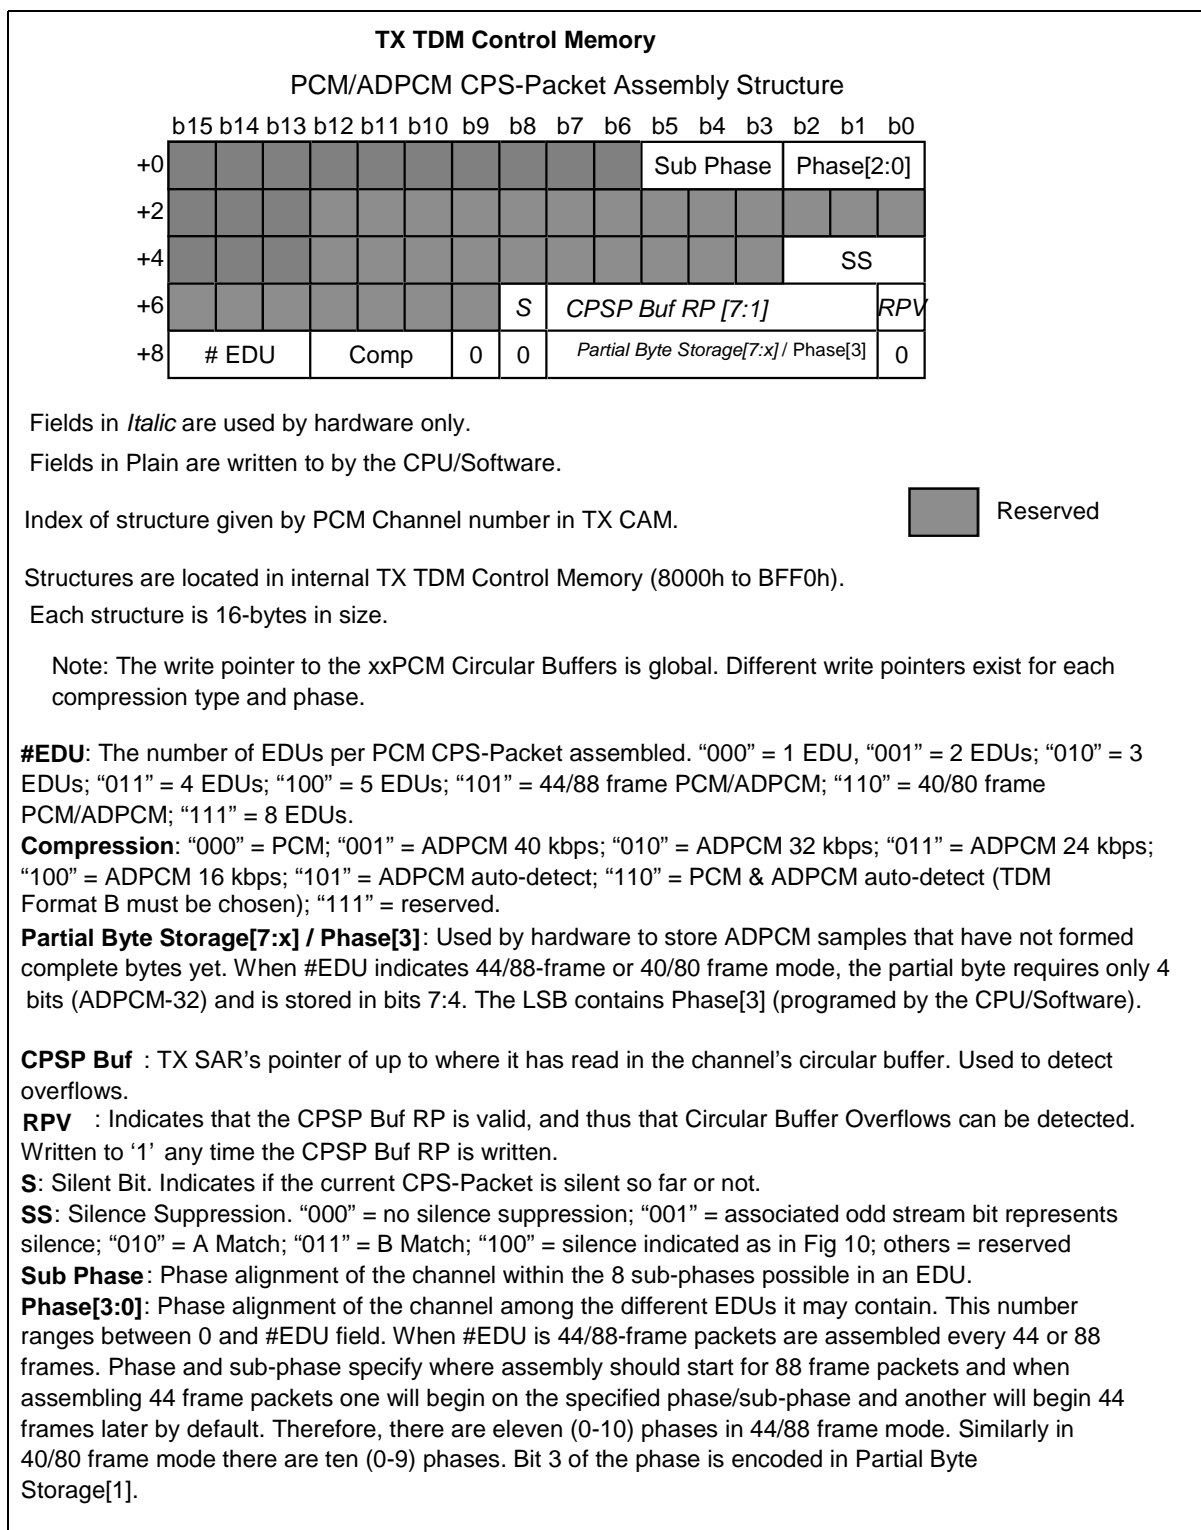

Figure 12 - PCM/ADPCM CPS-Packet Assembly Structure
Internal phase and sub-phase counters exist to co-ordinate the accumulation of sufficient data for a CPS-Packet with the construction of CPS-Packets. There are multiple independent phase counters, one for each #EDU. Channels with the same setting of #EDU share the same phase counter. Phase counters count from 0 to 1, 2, 3, 4, 7, 9 and 10. One global sub-phase counter exists which counts from 0 to 7 and increments on every frame. Each time the sub-phase counter reaches 0, the phase counters increment. A CPS-Packet is created for a channel when the channel's phase counter equals the channel's phase number, and the sub-phase counter equals the channel's sub-phase number. Both phase and sub-phase numbers are user programmed in the PCM/ADPCM CPS-Packet Assembly Structure, shown in Figure 12.
- The CPS-Packet Assembly Structure raises a CPS-Packet event upon the alignment of the sub-phase and phase (See Figure 12 - PCM/ADPCM CPS-Packet Assembly Structure).